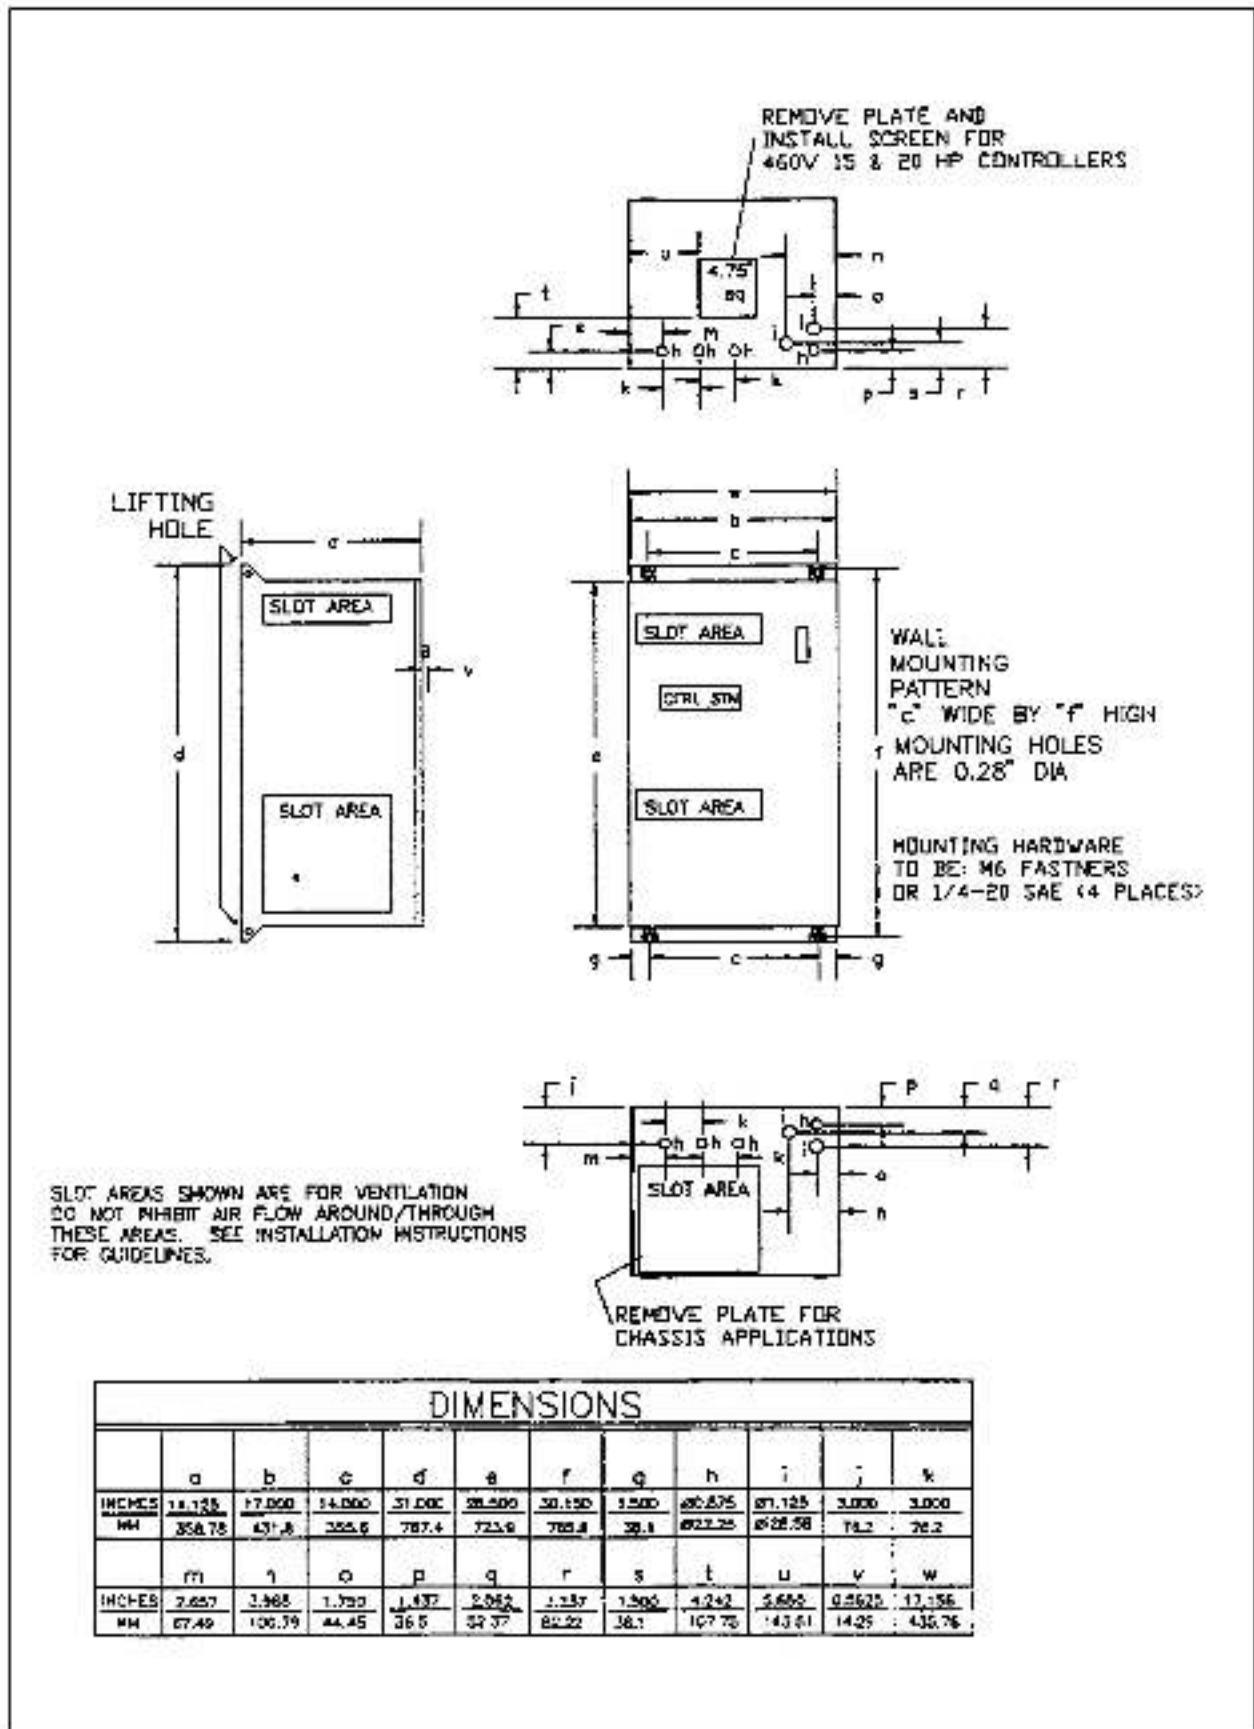

Figure 2. Expanded Cabinet Physical Dimensions.
1. In the location selected, using the provided lifting holes (see Figure 2), mount the expanded cabinet controller vertically with the input/output terminals at the bottom.
2. Make sure surrounding components do not hinder service access. See Figure 2 for mounting dimensions.